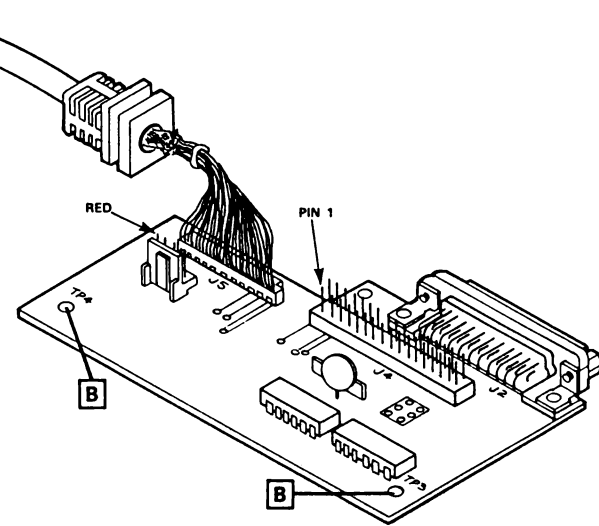

Fig. 3-1. PCB Assembly
3.1.2 Install the PCB and replace the 2 screws as shown in Fig. 3-1.
3.1.5 Replace the ribbon cable on the PCB at connector J4, being careful to match the PIN 1 indicator of the cable to PIN 1 of the PCB connector. See Fig. 3-1.